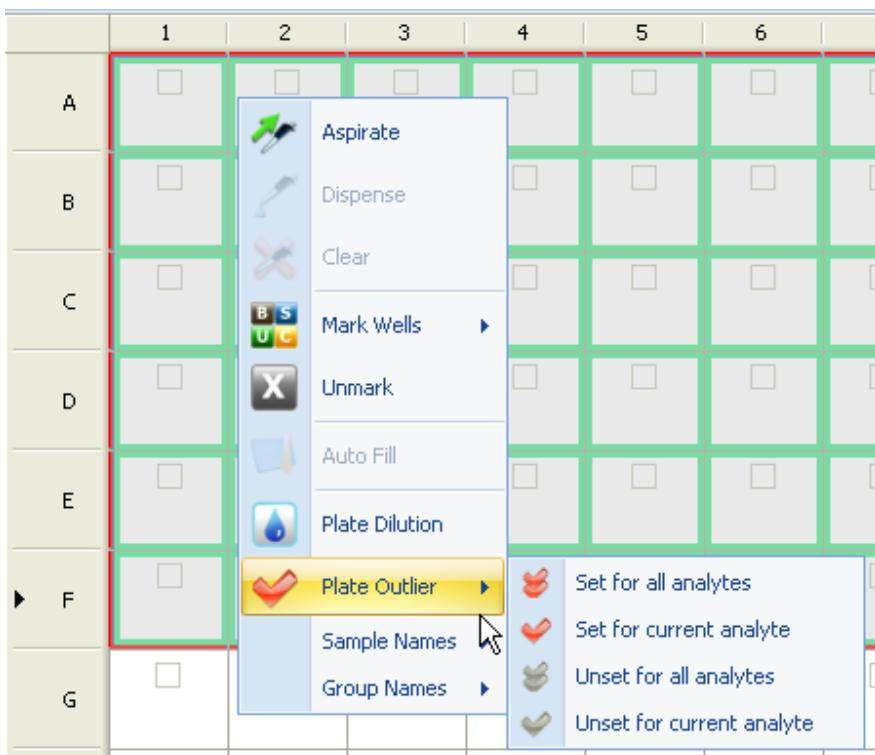

Figure 4.23 Batch outlier flagging menus
⇒ Context menu appears (Figure 4.23).
3. Select **Plate Outlier** menu. Sub-menu appears (Figure 4.23).